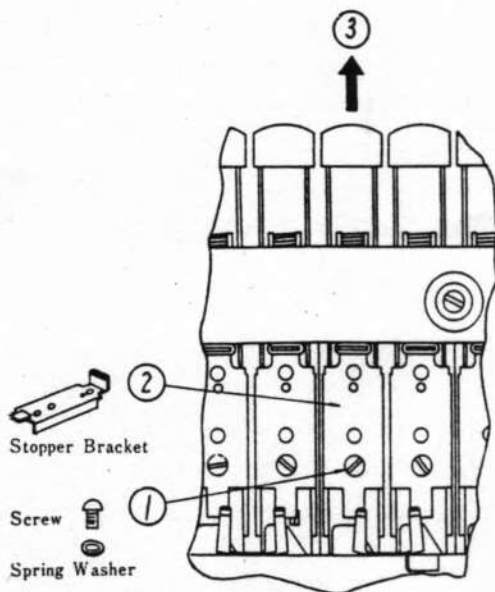

Fig. 3
1. Remove screw ① (Fig. 3).
2. Remove stopper bracket ② (Fig. 3).
3. Pull buttons in the direction of arrow mark ③ (Fig. 3).